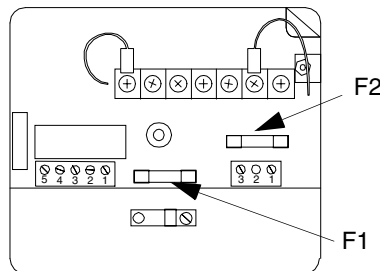

Figure 3-4 Fuse location
5. Locate the F1 and F2 fuses on the fixture's circuit board (see Figure 3-4).